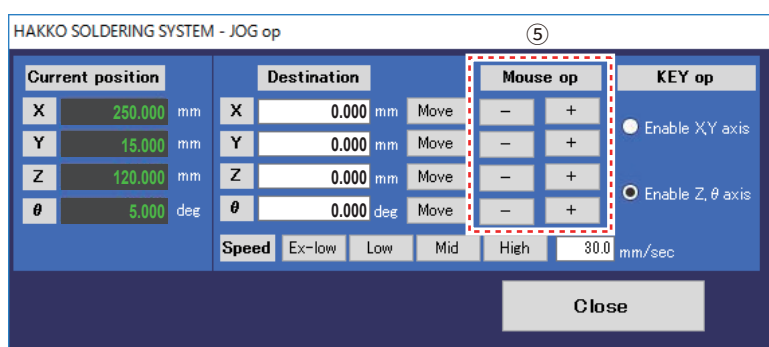

Fig. 7-31
⑤ Perform axis movement so that the brush comes in contact with a place that needs to be cleaned besides the start point coordinate. When coordinate positioning is completed, the cleaning coordinate (end point) is displayed on the current position in Fig. 7-31.